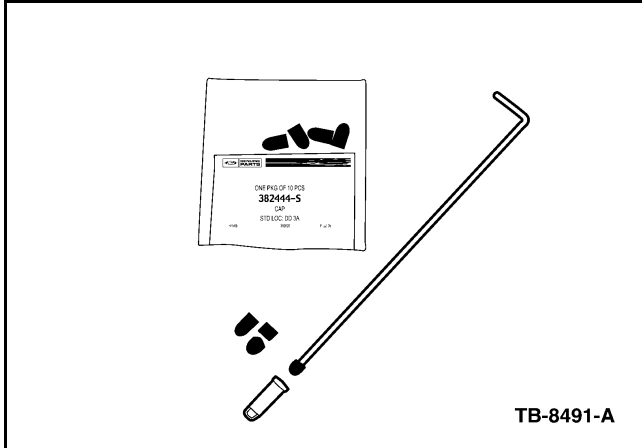

Figure 7 - Article 08-7-6
1. Modify vacuum cap to a 3/8" (10 mm) length for each ground electrode shield that needs to be removed. (Figure 7)
2. Use the installation rod (J) provided with service tool 303-1203 update to install the modified vacuum cap. Push the cap into the ground shield down to the electrode strap. This will plug and protect the combustion chamber from contamination. (Figure 7)
NEW PLUGS SHOULD BE INSTALLED USING A FILM COATING OF MOTORCRAFT® HIGH TEMPERATURE NICKEL ANTI-SEIZE LUBRICANT ON THE GROUND ELECTRODE SHIELD. DO NOT COAT THE ELECTRODE STRAP. (FIGURE 7)